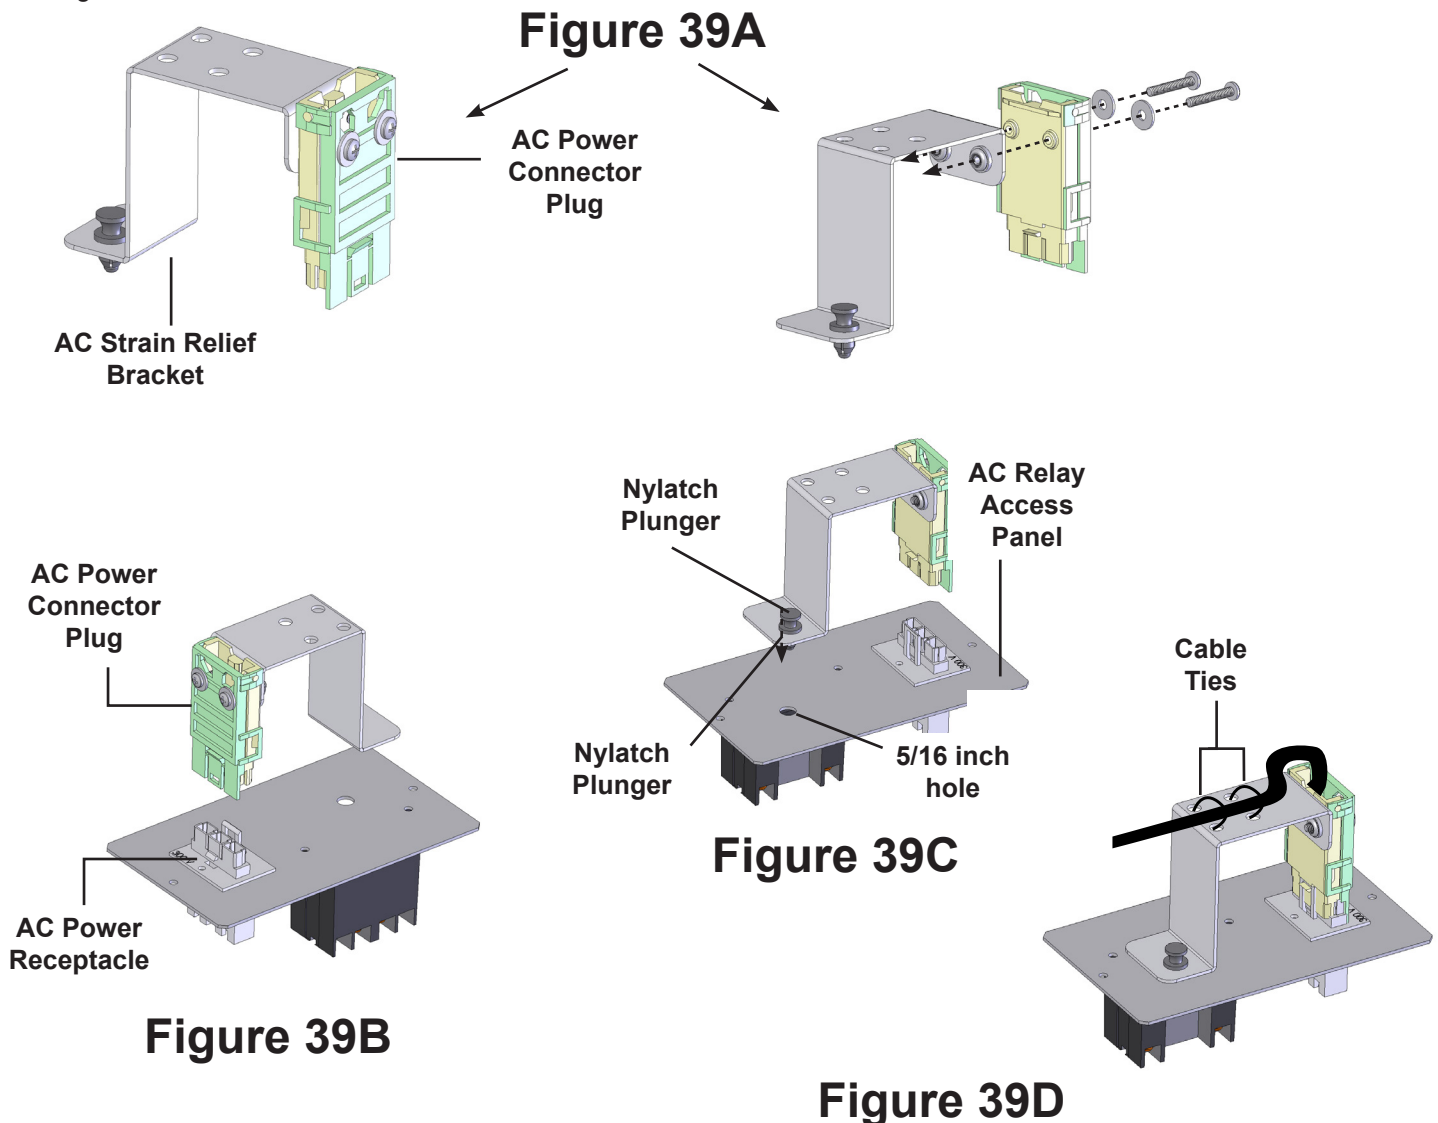

Figure 40
1. Remove one inch of the exterior sheathing from the end of the ROMEX Cable; reference Figure 40.
2. Pre-form the wires in the ROMEX Cable in preparation for their insertion into the locator slots; reference Figure 40.